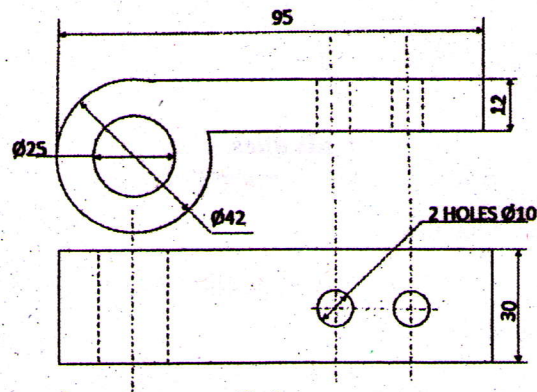

Fig. 1
14. (a) Design a jig for drilling 10 mm. diameter holes on the given work piece as shown in figure 1.